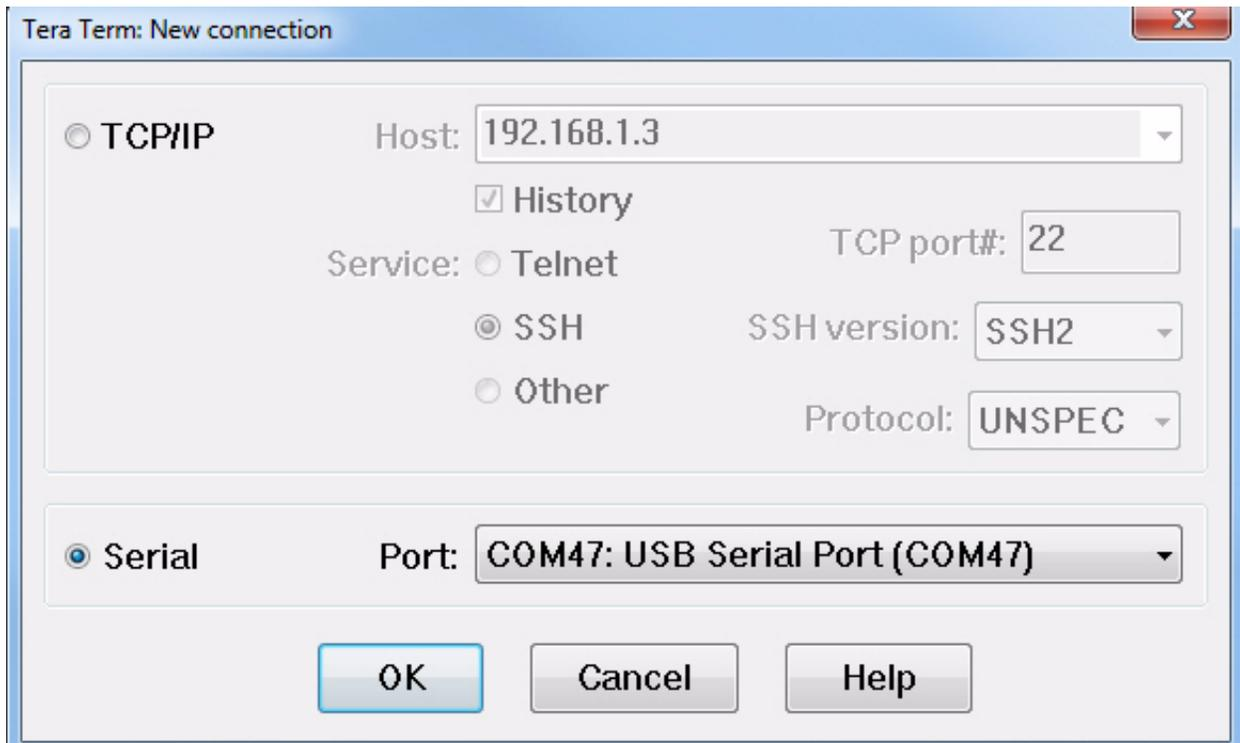

Figure 7. Selecting the Serial Port in Tera Term's New Connection Dialog
1. Launch Tera Term and select the serial COM port assigned to the ZSED Platform from the **Port:** drop-down menu, as indicated in Figure 7.
- **Note:** To determine which port is assigned to the ZSED Platform, first plug in, then unplug the USB cable from connector J4 (Console) on the ZSED Platform. The assigned port will appear, then disappear, in the Tera Term window. As an alternative, port assignment can also be monitored using the Windows OS Device Manager Port viewer. In the Figure 7 example, COM47 has been assigned.